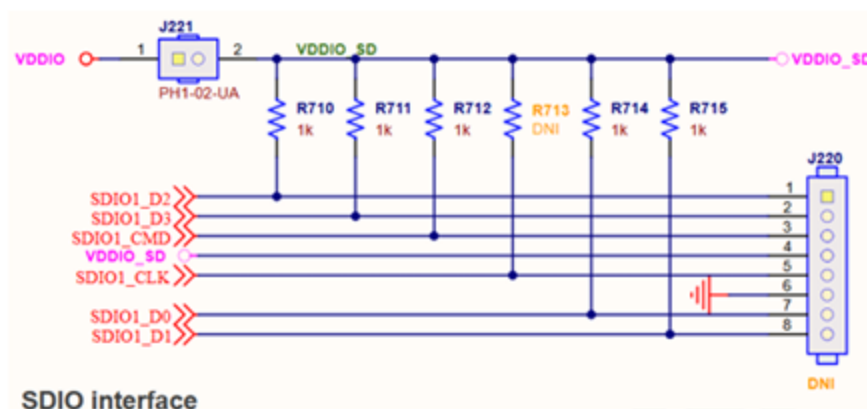
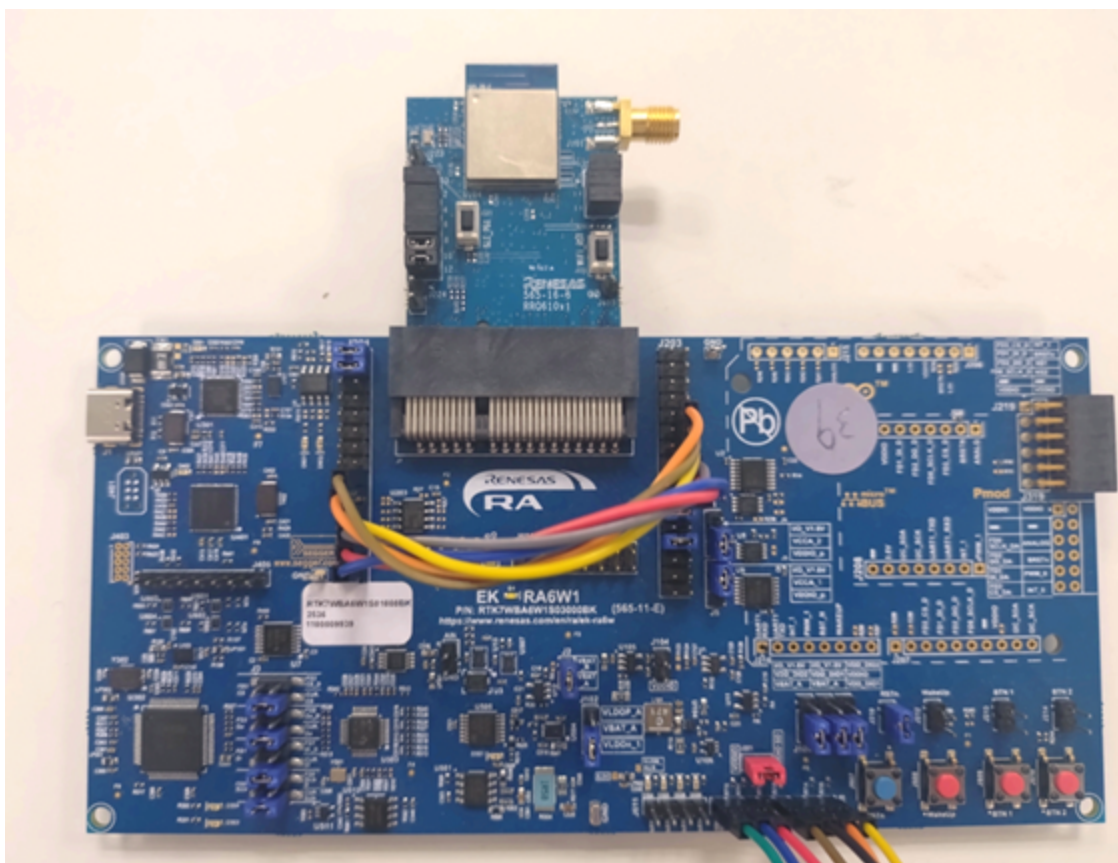

Figure 28. SDIO connector on RA6Wx EVB
Figure 29. Pin connection of J201 and J203 in RA6Wx EVB for SDIO interface
- Short J221: The signal line shown in Figure 28 is connected to the J203 on the RA6Wx EVB. Table 10 shows required connection between J201 and J203, and Figure 29 shows actual connection.